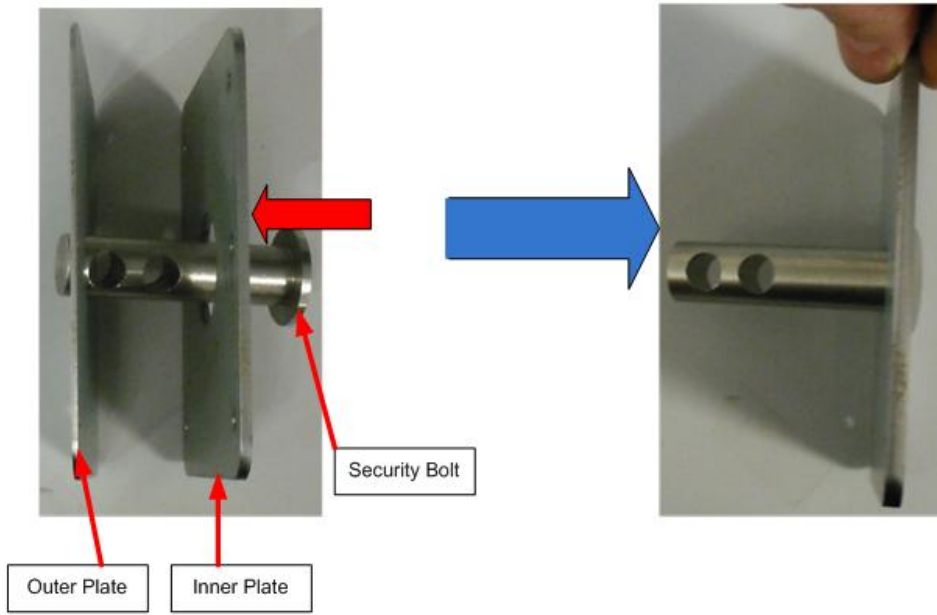
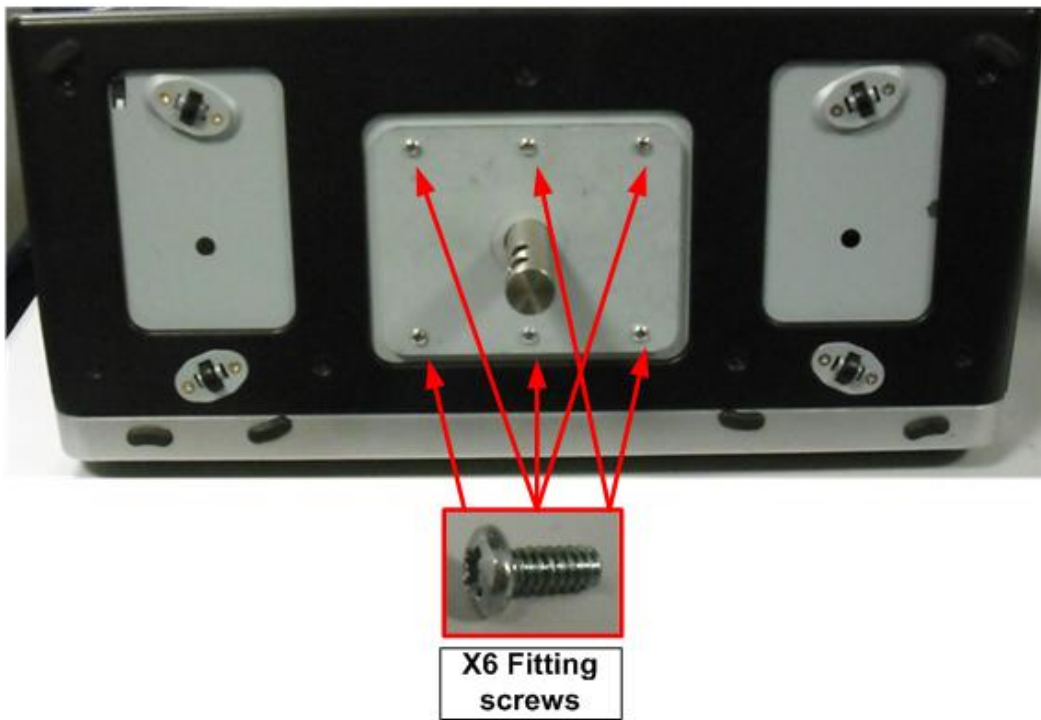

Figure 2: Security bolt and plates order
Figure 3: Fitting the plates and security bolt to the chassis
2. Once the rubber bumper has been removed Fit the Inner, outer plates and the security bolt as shown in **Figure 2** and **Figure 3**.